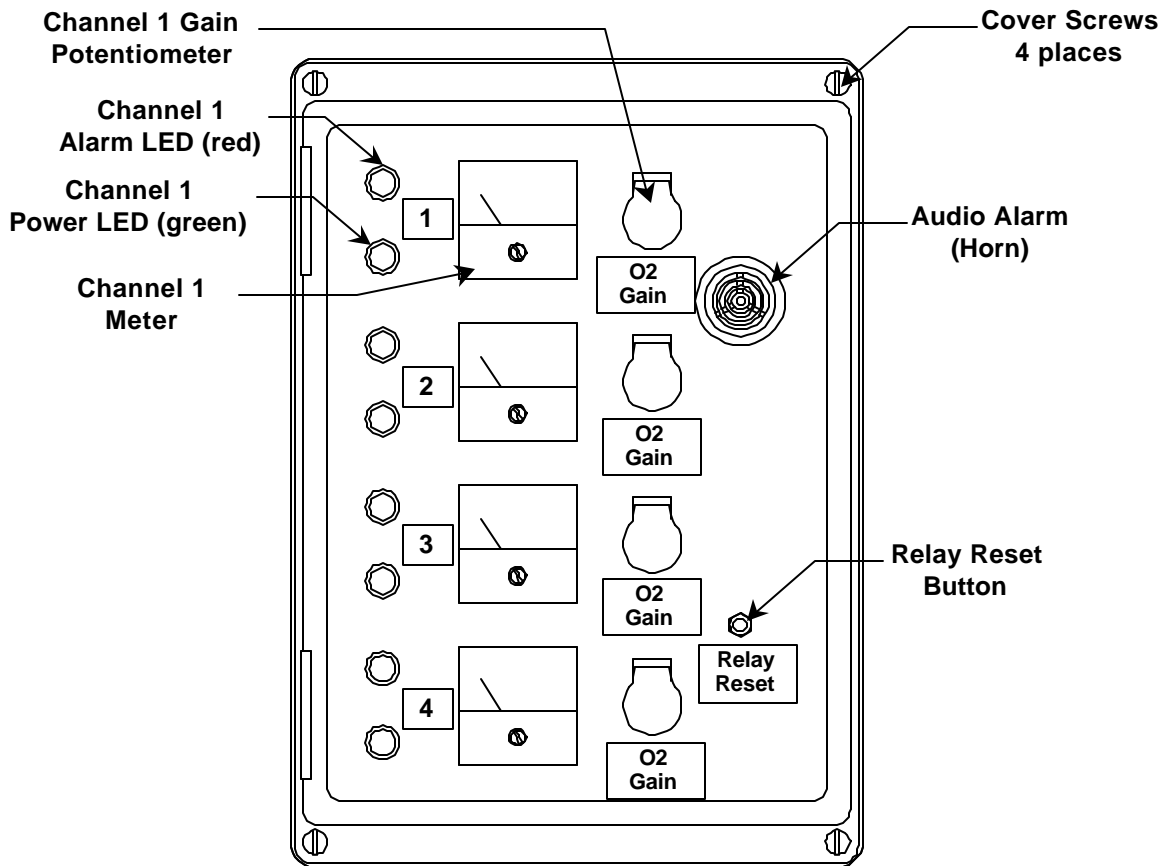
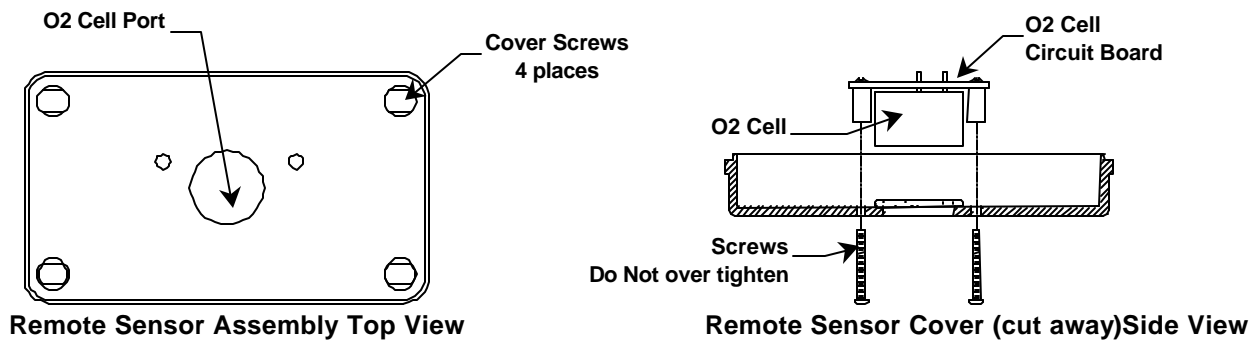

Figure 1: ISA-40M Control Unit Exterior
Figure 5: Remote Sensor Oxygen Cell Installation (Optional)
| FIGURE 1: ISA-40M CONTROL UNIT EXTERIOR | 2 |
| FIGURE 5: REMOTE SENSOR OXYGEN CELL INSTALLATION (OPTIONAL) | 7 |
See figure 1 for location of features
The input of the transformer must be changed in order to accommodate 220 VAC power. This is accomplished by changing the wiring between four standoffs located under a protective cover next to the transformer, shown in Figure 1. The wiring configurations and the power supply schematics are shown in Figure 5.
1. Remove 4 cover screws to open the control unit and remove screws to remove cell circuit board. See Figure 1 & 3.
1. Open the control unit by removing the four screws on the display face corners. See Figure 1
5. Remove screws in sensor assembly to remove oxygen cell mounting and cell circuit board. See Figure 5.